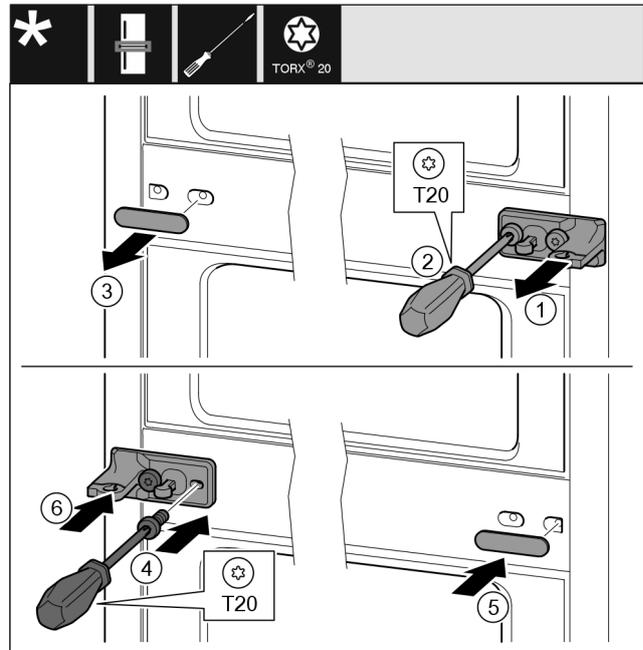

Fig. 36
- ▶ Remove the washer Fig. 36 (1).
- ▶ Unscrew screws Fig. 36 (2) with screwdriver.
- ▶ Remove the cover Fig. 36 (3) carefully.
- ▶ Turn the bearing block with film Fig. 36 (4) by 180° and screw it tight on the other side.
- ▶ Turn the cover Fig. 36 (5) by 180° and attach to the other side.
- ▶ Slide on the washer Fig. 36 (6) from the front.